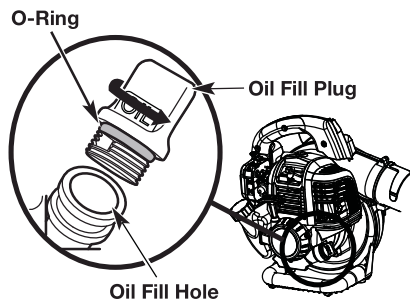

Fig. 8
2. Unscrew the oil fill plug (Fig. 8)
3. Pour the entire container of oil into the oil fill hole (Fig. 8)
DO NOT overfill. Refer to Checking the Oil Level. If using a blended fuel: Never add oil to the fuel tank. This unit has a four-cycle engine. DO NOT mix oil with gasoline. Wipe up any oil that may have spilled. Make sure the O-ring is in place on the oil fill plug (Fig. 8).